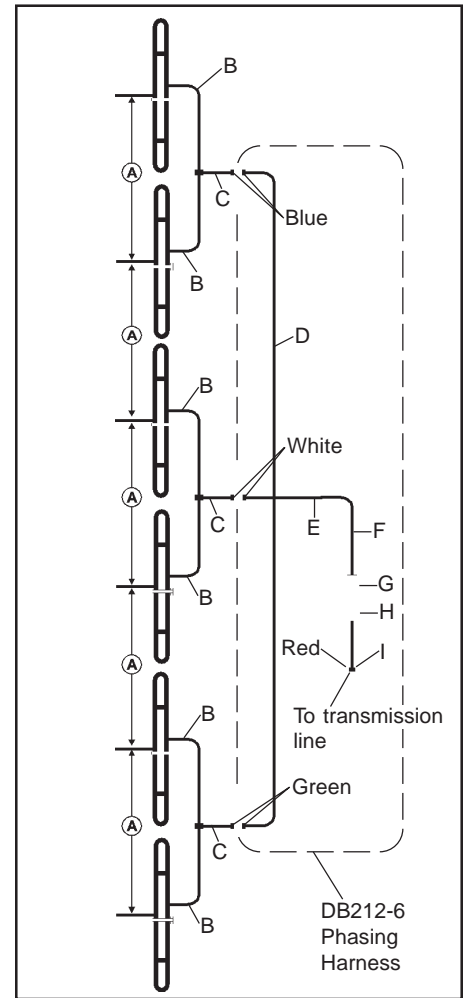

Figure 10 - DB212-6
**Installing the DB212-6 (refer to Figure 10):**
7. Connect the antenna feed cable (see Figure 10) from Dipole 2 to the "Tee" connection on the phasing harness attached to Dipole 1. Make the connections snug but do not apply heavy force with pliers.
10. Using the DB212-6 phasing harness, connect the three completed DB212-2 units together (see Figure 10). Be sure to match the color codes. Make all connections snug but do not apply heavy force with pliers. This should leave the phasing harness transformer (color coded red) open for connection to the station transmission line.